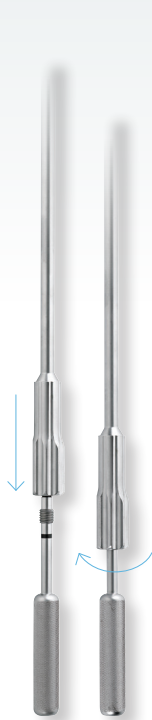

Figure 13a:
- Assemble the drill guide B handle by threading the guide B handle sleeve over the guide B handle shaft all the way past the threads, until the sleeve can be retracted toward the handle (**Figure 13a**).